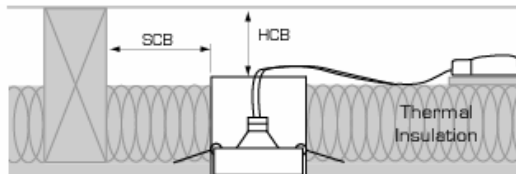

Fig 2.
2. If building is insulated use 'Heat Can' (HC01), place transformer on a piece of board on top of insulation ensuring ventilation of transformer 'fig 2'. Connect the luminaire (lamp holder) to the transformer.